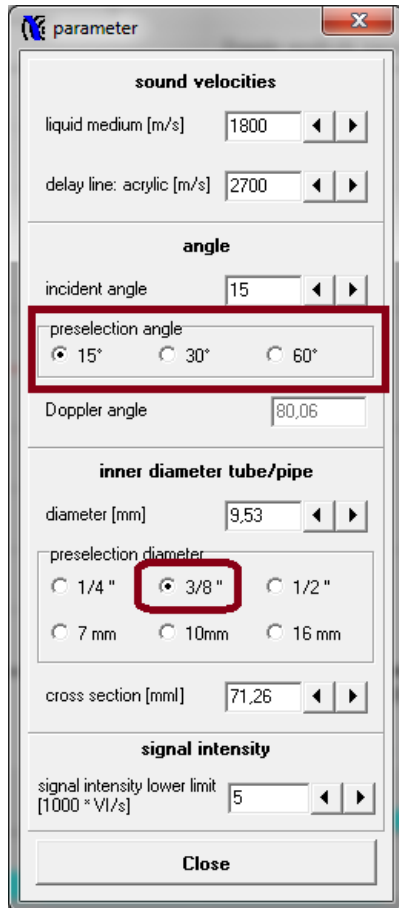

Figure 5. “Parameter” tab.
6. In the FlowView programme choose the proper tube diameter and the angle in the “Parameter” tab (figure 5).